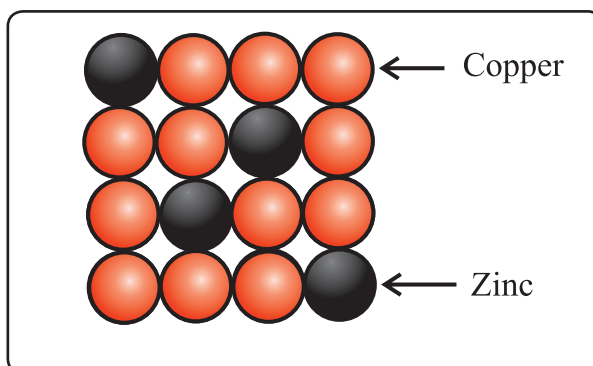

Fig. 1.17 : Brass
- Solid solutions of metals (alloys) :** Brass is an alloy of Cu and Zn. In brass, host Cu atoms are replaced by impurity of Zn atoms. The Zn atoms occupy regular sites of Cu atoms as shown in Fig. 1.17.